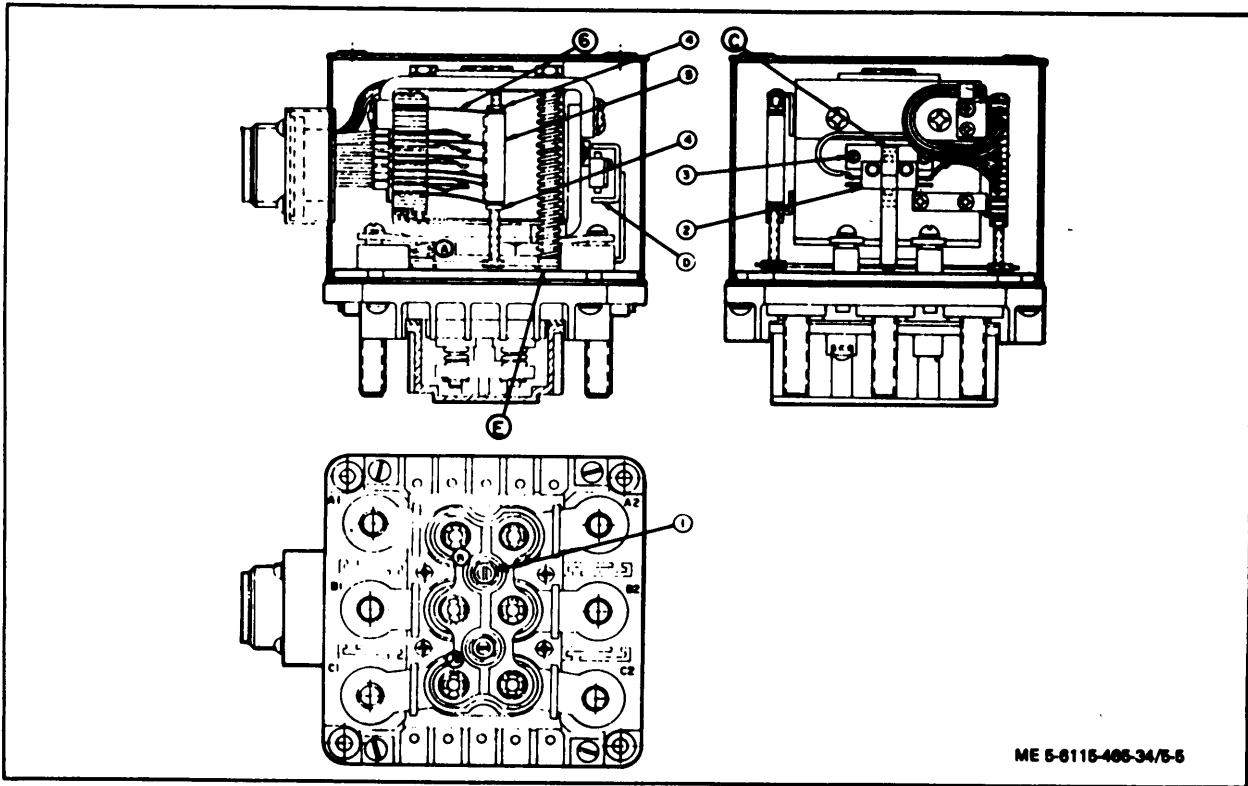

Figure 5-5. Main Load Contactor Adjustments
(18) Install main contact assembly (23) and secure with lockwashers (22) and nuts (21). Adjust contact over travel as follows: (See figure 5-5.)
(d) Adjust carrier bushing at point (B) (figure 5-5) until continuity is indicated at terminals A1-A2 and C1-C2.
(19) Adjust economizing switch as follows: (see figure 5-5.)
(e) Bend the tab (point D, figure 5-5) of bracket toward the switch until the switch actuates.
(20) Adjust auxiliary contacts as follows: (see figure 5-5.)